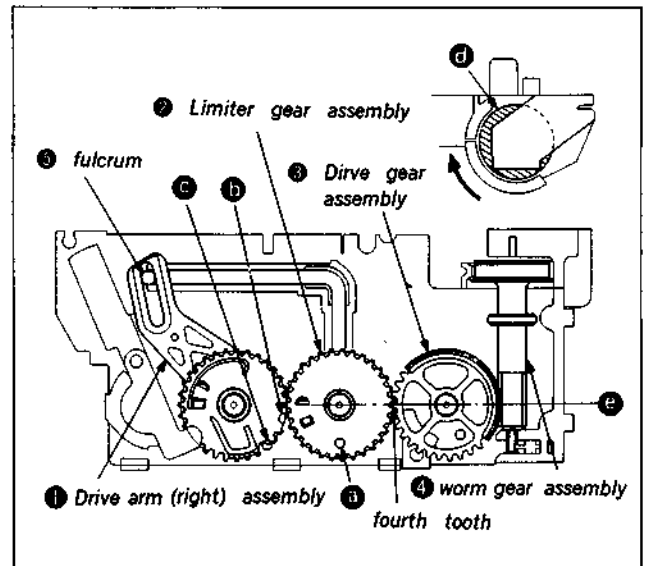

Fig. 3-14-A. Adjustment method of position (Phase) matching of right gear wheel
- 1) See to it that the fulcrum ⑤ of the base block right side plate passes the slot of the drive arm (right) assembly.
- 2) Install the limiter gear assembly ②, irrespective of the positioning hole ② to engage with the drive arm (right) assembly ①. (Regarding phase matching hole ②, it is desirable, if possible, to come to the vicinity of Fig. 3-14-A).
- 3) Install drive gear assembly ③ so that the fourth tooth of the drive gear assembly ③ becomes into a straight line ⑥ with the shaft of the limiter gear assembly ② and drive gear assembly ③.
- 4) Install worm gear assembly ④.
- 6) Turn the flange ⑥ of the worm gear assembly ④ in the direction of arrow until it stops.